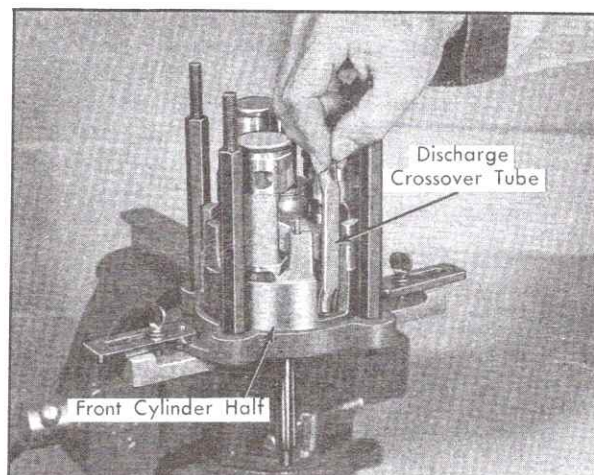

Fig. 1-60 Installing Discharge Cross-Over Tube
8. Install new discharge cross-over tube in front cylinder half with bridged surface facing outboard, Fig. 1-60. Make certain that end of tube is properly centered in hole in front cylinder half.